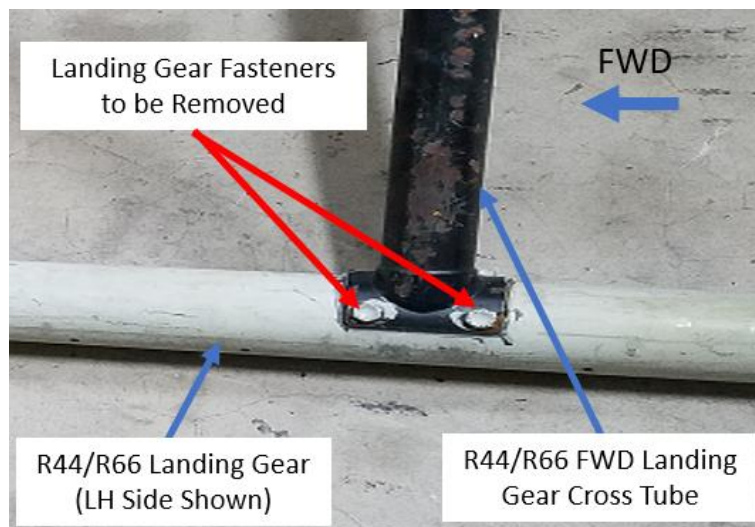

Figure 4. Exterior leg mounting bolts
4. Using 9/16" ratchet remove exterior two bolts from forward Landing Gear Cross Tube to Skid Tube attachment shown in Figure 4. They will be replaced with the NAS6606-7 hex bolts used to attach the LHA-44-005 Aft Attachment Bracket.